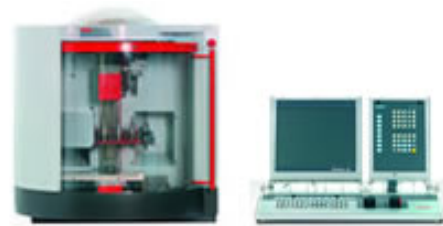

Fig. 1.2 CNC milling machine
- CNC Milling machine. Fig. 1.2